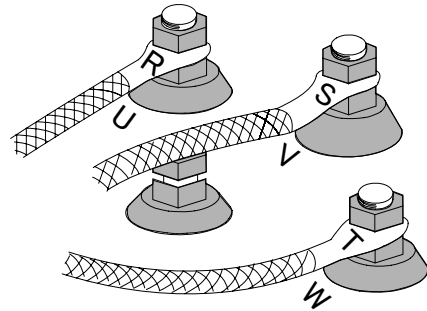

Fig.2-19 Power Supply Phases and Terminal Connections
- (1) If the direction of phase rotation of power supply (R→S→T) is clear, make connections like R-U, S-V and T-W. (Refer to Fig.2-19.)
- (2) If the direction of phase rotation of power supply is not clear, confirm the direction of rotation in “3.1 Items to be confirmed before Operation”.